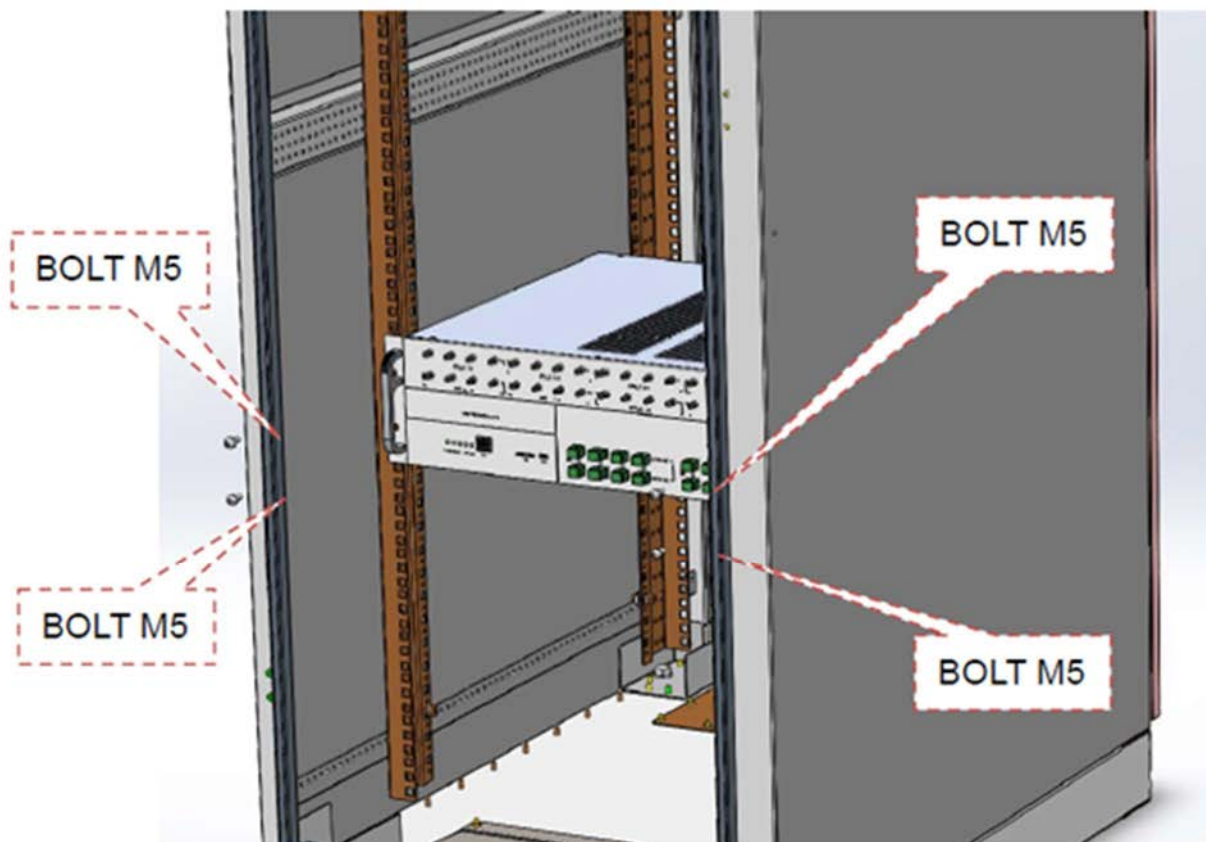

Figure 3-4 Use screw to mount PBMU
3. Use screw to mount PBMU, as shown in Figure 3-4.